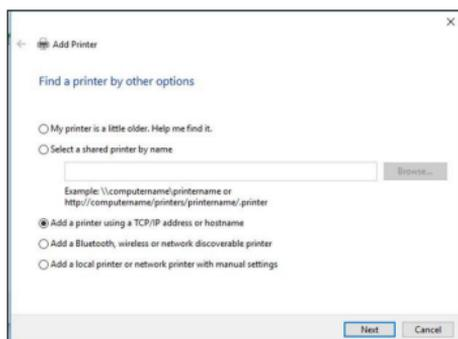

Figure 14
4. On the **Add Printer** screen, select **Add a printer using a TCP/IP address or hostname.** Select **Next.** (Figure 14)